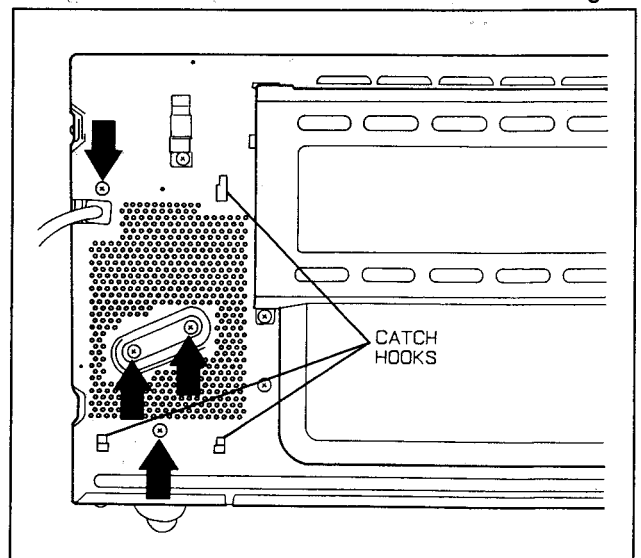

Fig. 18
(D) Remove 4 screws holding fan motor and orifice assy and detach the orifice assy with fan motor from oven assy. (Fig. 18)